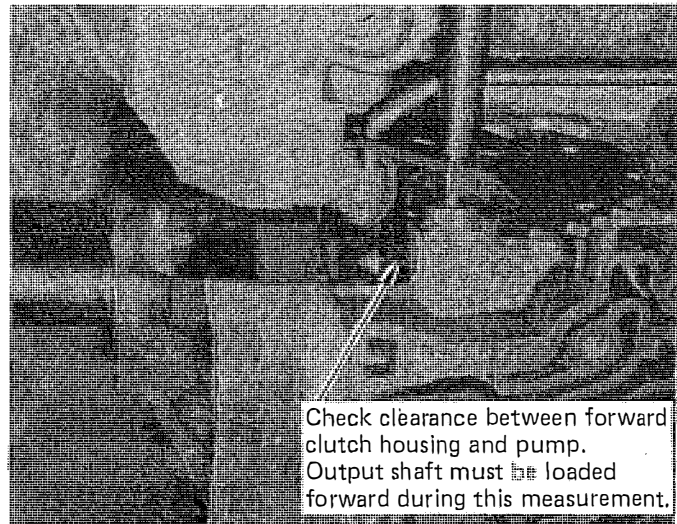

FIGURE 49
STEP 18. Check end play of input shaft. This can be done using a dial indicator on the end of the input shaft or by using feeler gages between the pump and forward clutch housing. (See Fig. 49) The output shaft must be loaded forward so keep the transmission on its output shaft. End play should be 0.003 - 0.024". End play can be adjusted using selective washers available from your GM dealer on the back of the pump.